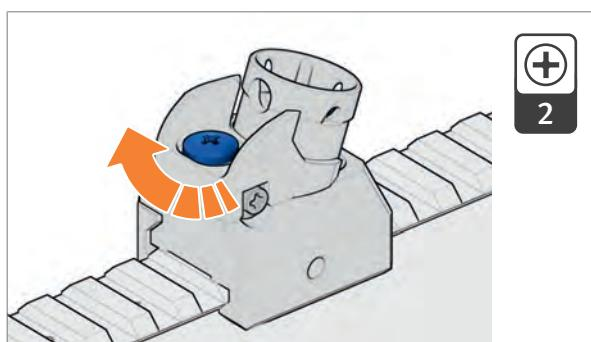

Fig. 83: Tighten the locking screw
3. Tighten the locking screw clockwise with a screwdriver. (Fig. 83).